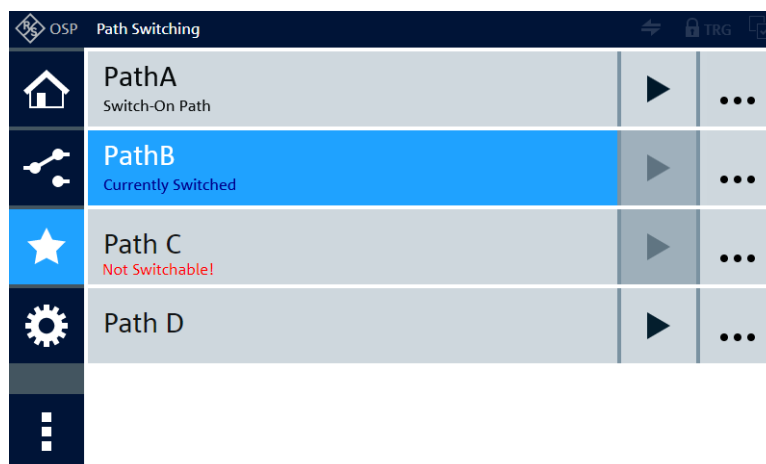

Figure 6-31: Path Switching menu with list of paths
"PathA" in Figure 6-31 is labeled as "**Switch-On Path**". Hence, when you switch on the R&S OSP, it tries to set all relays and output channels as specified in this path definition. To specify that a path is switched at startup, go to Configuration > General > Switch-On Action.
"PathB" in Figure 6-31 is labeled as "Currently Switched". The switched path is also highlighted in blue.
"Path C" in Figure 6-31 is labeled as "**Not Switchable!**", which indicates a difference between the target states specified in a path definition and the available hardware for realizing these states. This difference can have the following typical causes:
- If a path is labeled as "Not Switchable!", you cannot switch it. For an explanation, see below Figure 6-31.
If at least one path is defined in the "Path Switching" dialog, it looks like in Figure 6-31 or Figure 6-35.